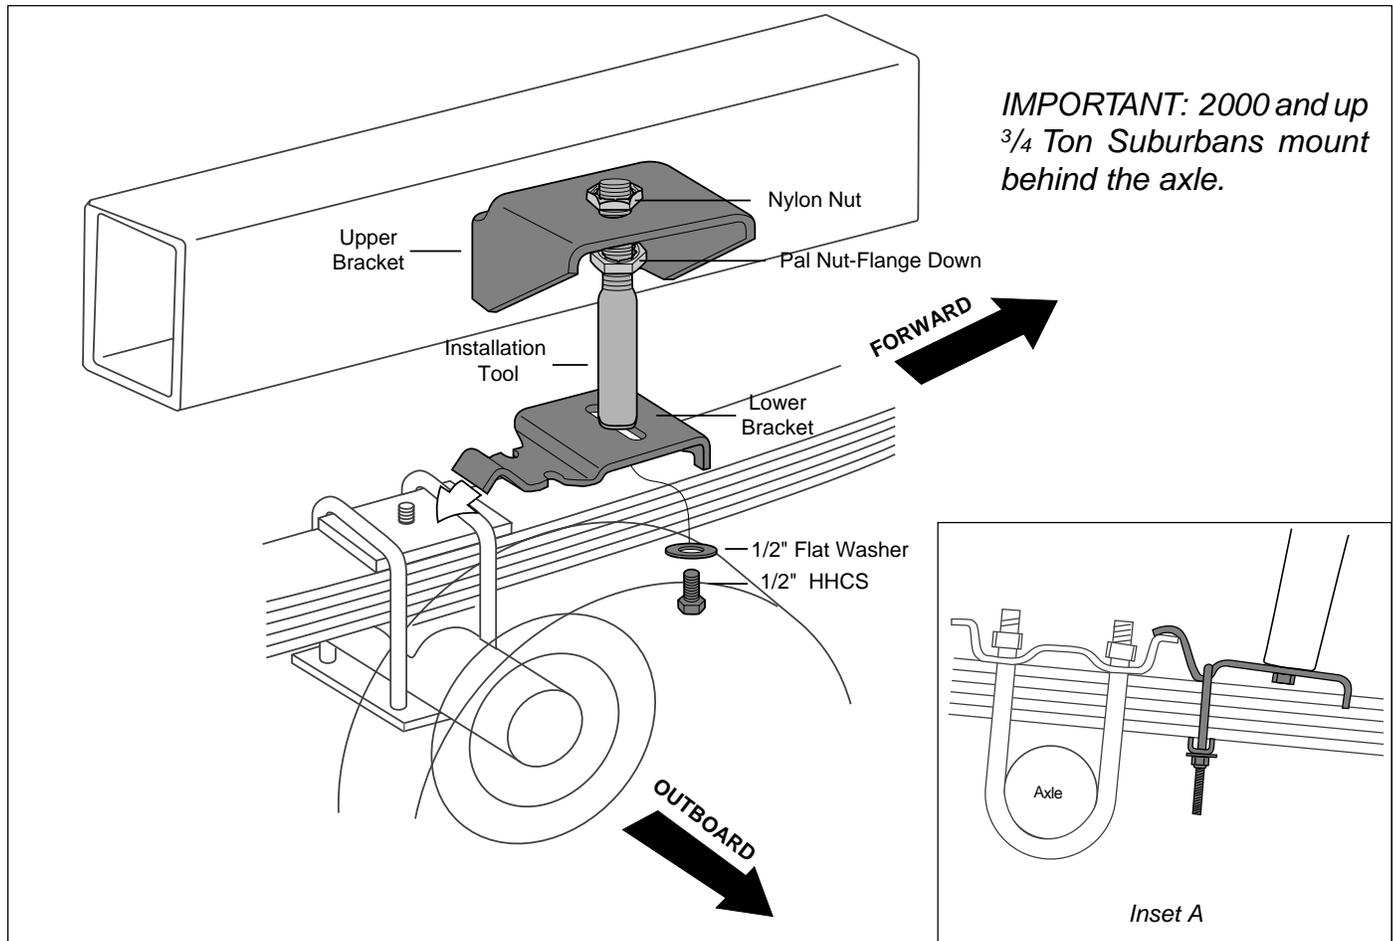

Figure 1
1. Place the upper bracket onto the threaded end of the tool and rest the bracket on the bottom Pal nut (flange down). Then thread a nylon nut onto the tool to hold the bracket in place (Figure 1).
2. Use a 1/2" flat washer and the 1/2" x 7/8" bolt to attach the lower bracket to the bottom of the installation tool. Leave just loose enough to adjust in and out (Figure 1).
4. With the hook end of the lower bracket placed over the existing U-bolt or Spring Retainer, secure the lower bracket to the leaf spring with the provided U-bolt, flat washers, and lock nuts. Torque to 16 ft-lbs (Figure 1 and Inset A).
**IMPORTANT:** There must be at least 1.5" above the upper bracket for air fitting clearance. The brackets can be mounted anywhere within the threaded range of the installation tool (Figure 1).